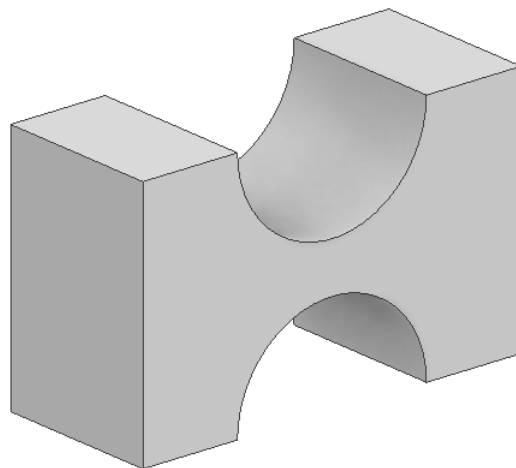

Figure 2-95 The model created on extruding the sketch
3. Choose **OK** from the dialog box to create the model and exit the **Properties-Extrusion** tool. The extruded model is shown in Figure 2-95.